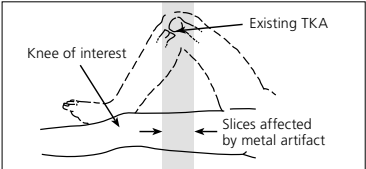

Figure 3
*If metal is present in contralateral knee, it is flexed away from joint line (see Figure 3)